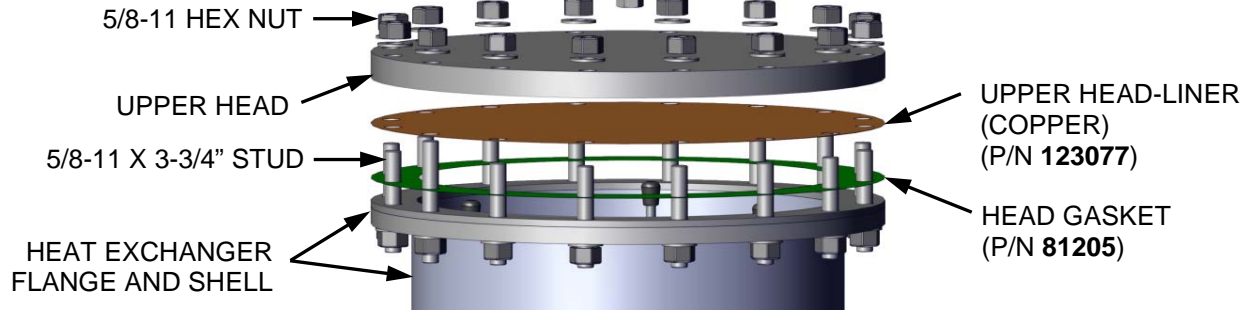

Figure 6-8: Heat Exchanger Head Configuration
The Heat Exchanger heating surface is inspected by removing the top head (see Figure 6-8). Prior to performing the inspection, ensure that the following replacement part(s) are available:
4. Referring to see Figure 6-8, below, remove the 5/8-11 hex nuts and washers from the upper head, and then remove the upper head, the copper upper Head-Liner and gasket(s).